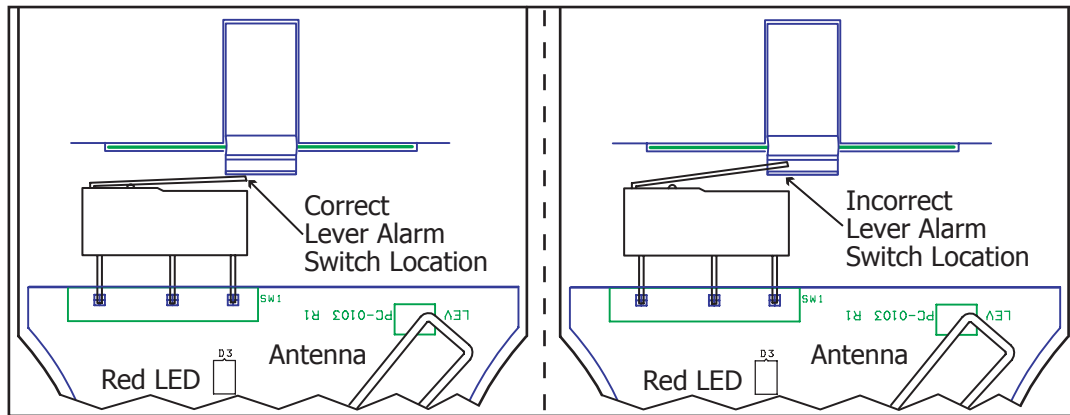

Figure 4: Lever Alarm Switch Location Detail
6. Gently slide the PCB back into the housing making sure the lever alarm switch is in position to activate. See Figure 4.